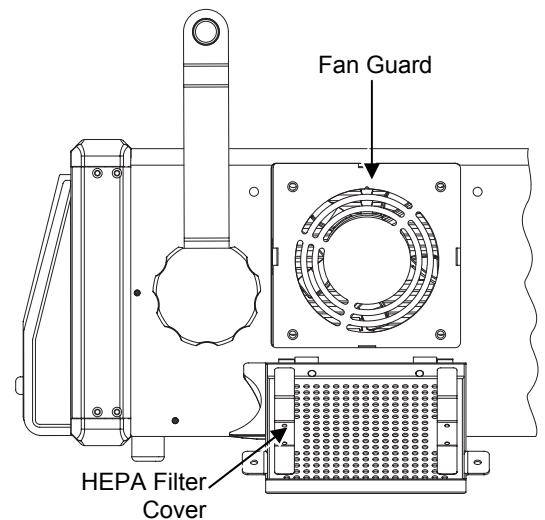

Figure 112 Fan Guard
6. Remove the HEPA filter. Ensure the fan is not spinning. Clean the fan guard with an absorbent, non-abrasive, low-lint wipe and isopropyl alcohol prior to installing new filter. See Figure 112.
8. Swing the HEPA filter cover closed. Use the tool from step 2 to press and engage the latches. The latches will lock into place when the HEPA filter cover is completely closed. See Figure 112.